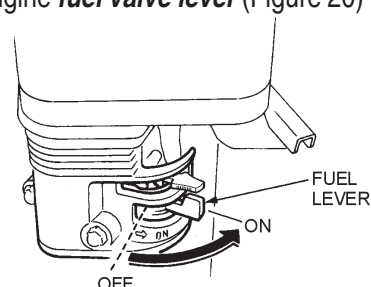

Figure 20. Engine Fuel Valve Lever
2. Place the engine **fuel valve lever** (Figure 20) to the "ON" position.
4. Place the engine **fuel valve lever** (Figure 20) in the **OFF** position.